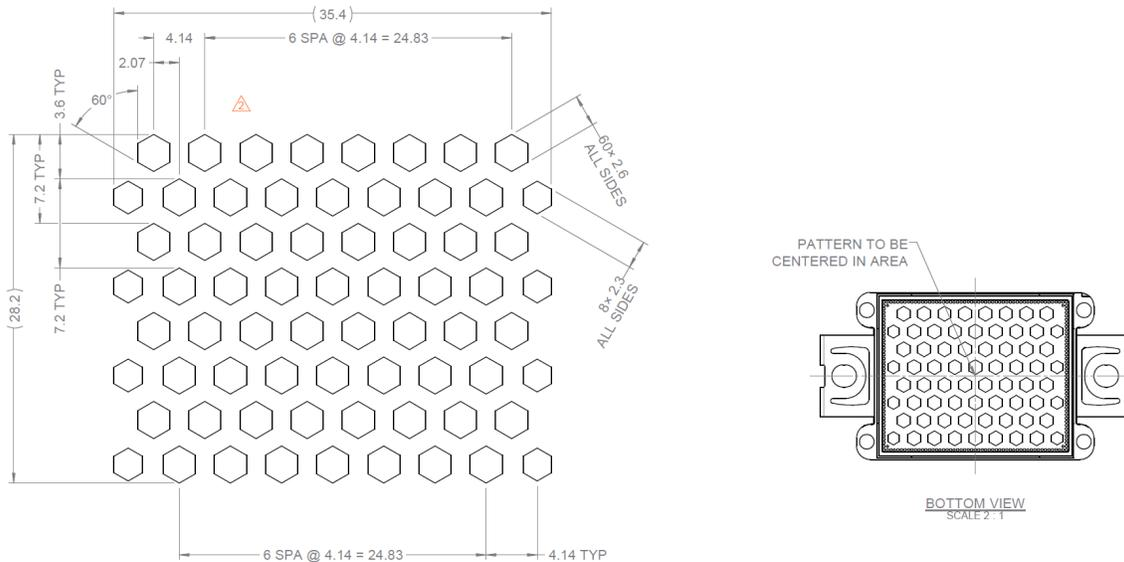
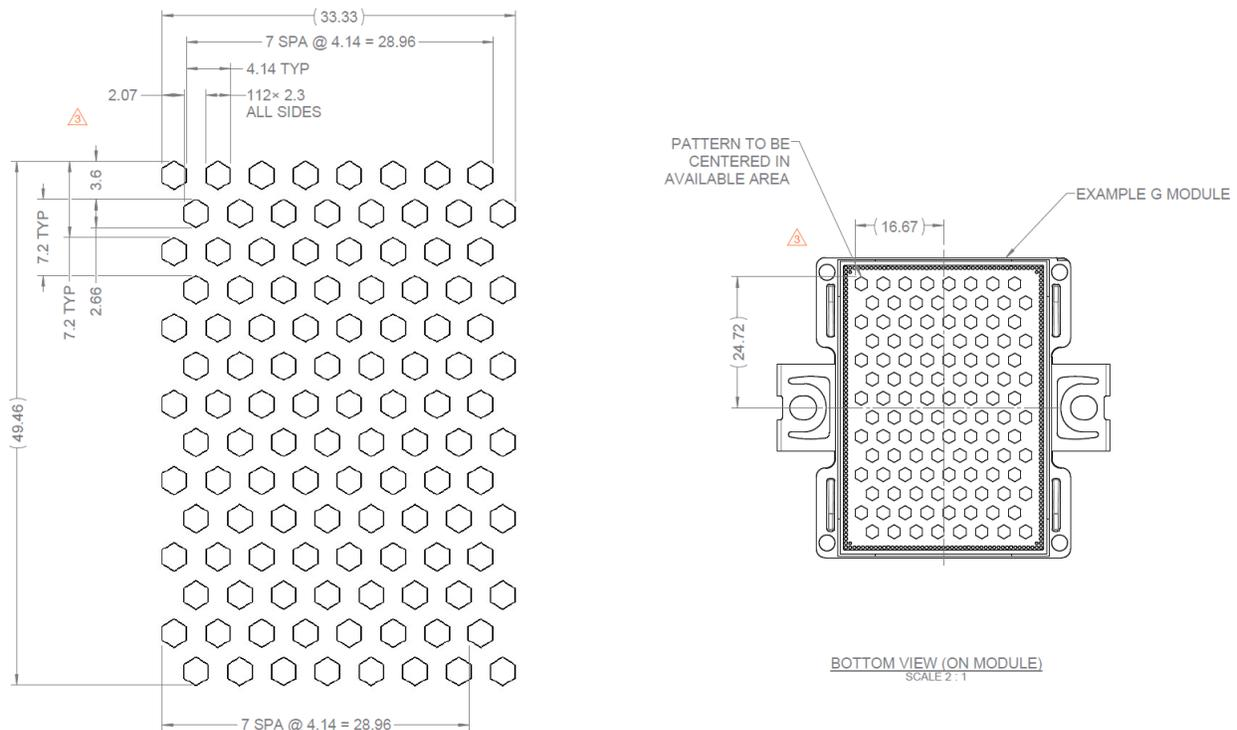
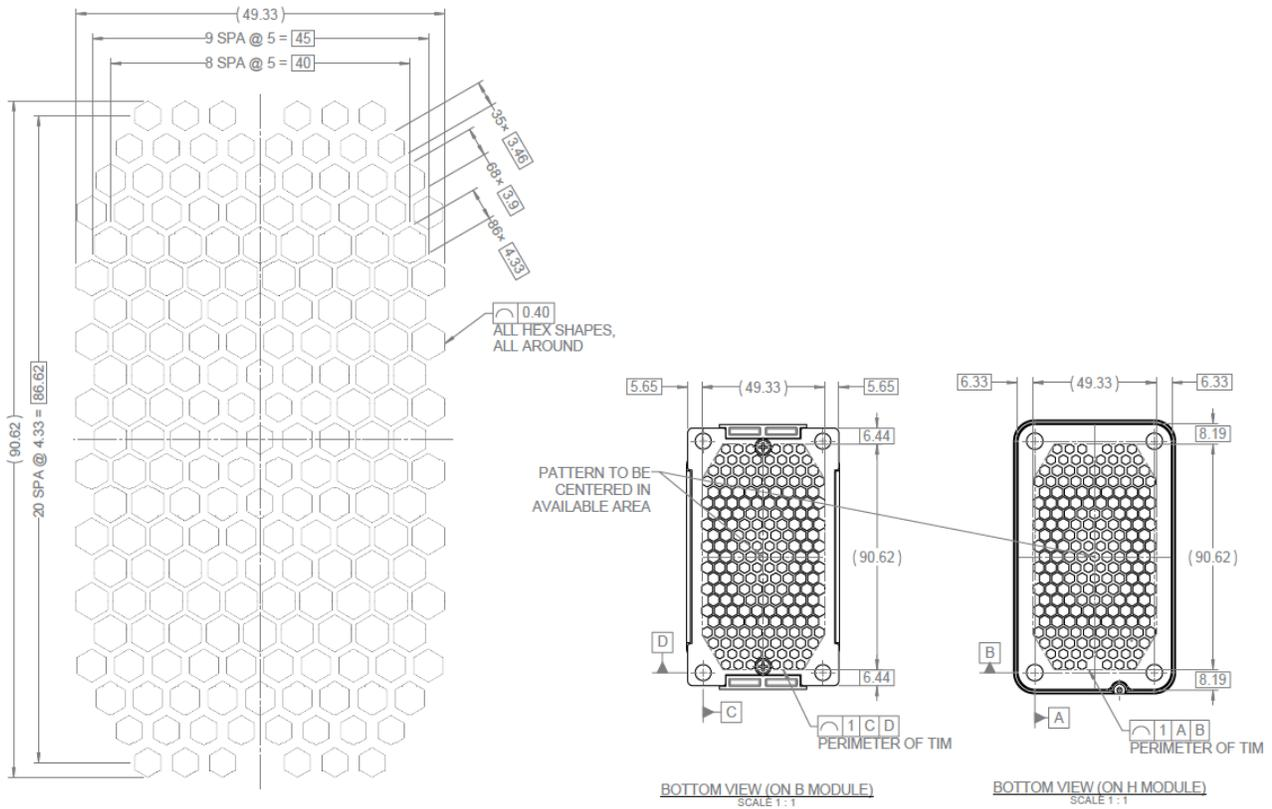

Figure 26. TIM pattern for the F module platform
Figure 27. TIM pattern for the G module platform
Figure 28. TIM patterns for B and H module platforms
The pre-applied TIM pattern dimensions of the F, G, and B/H module platforms are illustrated in Figure 26, Figure 27, and Figure 28 respectively. The patterns have a typical post-cure thickness of 85 μm (B, H), 130 μm (F), or 190 μm (G) depending on module type.